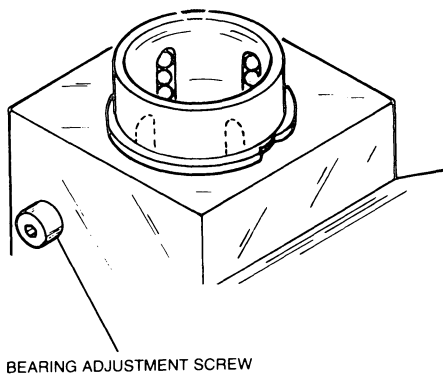

Figure 5.38 Bearing Adjustment Screw Location
- (a) Loosen the two screws attaching the transducer to the motor mounting bracket (see Figure 5.38).
2. Apply grease (120-000753) to the four bearings in each of the two bearings (see Figure 5.38).
6. Loosen the bearing adjustment screws on the carriage (see Figure 5.38).